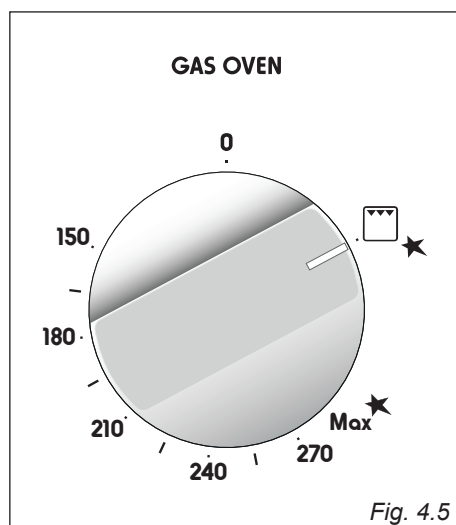

Fig. 4.5
2. Lightly press and turn the thermostat knob clockwise to the position  ★ (fig. 4.5). Press the knob firmly until the burner lights.